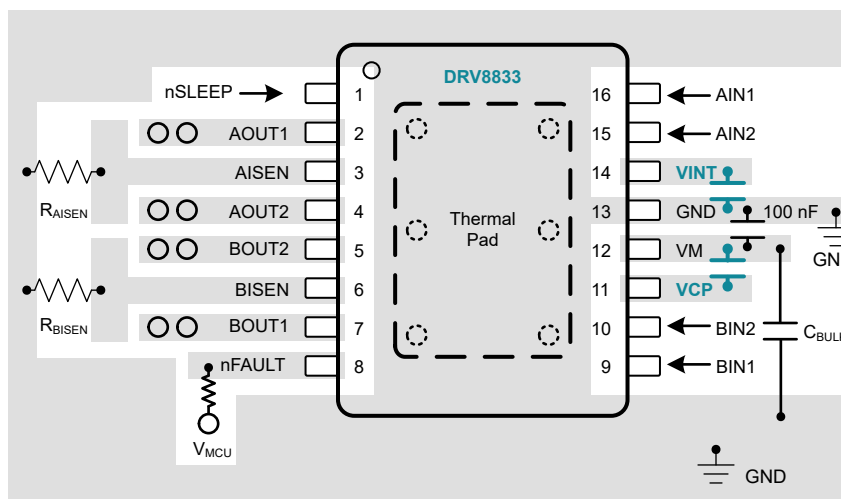
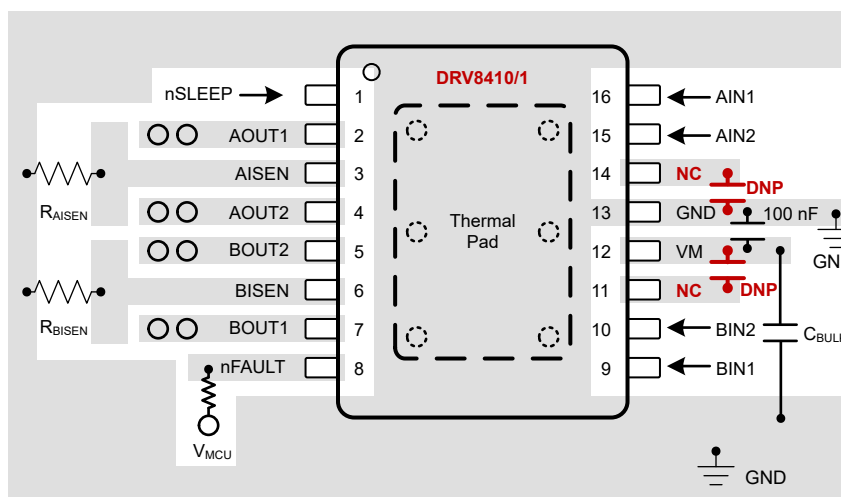

Figure 10-21. DRV8833 Layout Example
Figure 10-22. DRV8410/1 Footprint Compatible Layout Example
- DRV841xPWP can use the same footprint as DRV8833 and DRV8833C in the HTSSOP package as shown in Figure 10-21 and Figure 10-22.